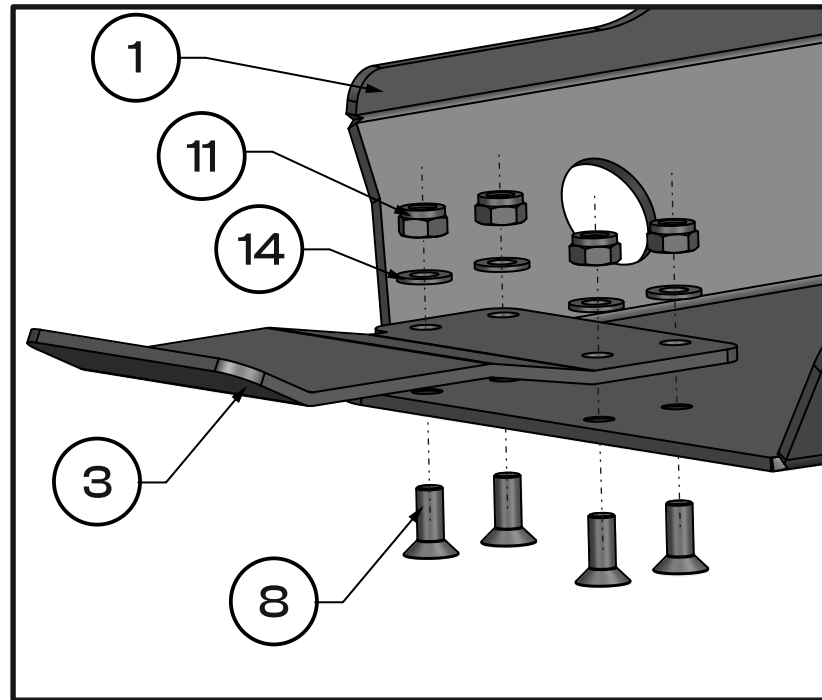

Fig. 3
2. Install the skid plate **[1]** together with the linkage guard **[3]** by inserting the bolts **[8]** from below, then secure them with the washers **[14]** and nuts **[11]**. **[Fig. 3], [Fig. 4]**